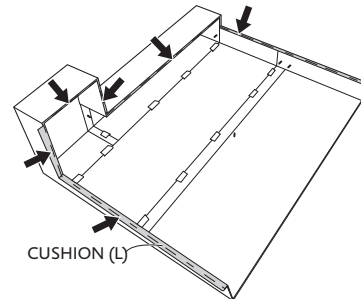

Figure 6
E. Carefully turn over exhaust assembly. Remove adhesive backing from CUSHION L. The cushion should be applied to the flanges of the duct assembly as indicated by arrows. See Figure 6.